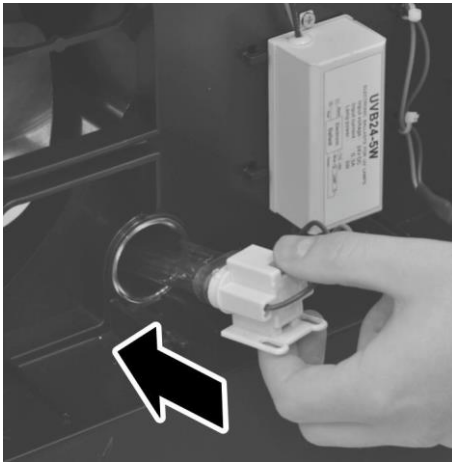

Fig. 37: Sliding a new UV lamp into the opening
- 6.** ▶ Slide the UV lamp and holder into the opening (Fig. 37).